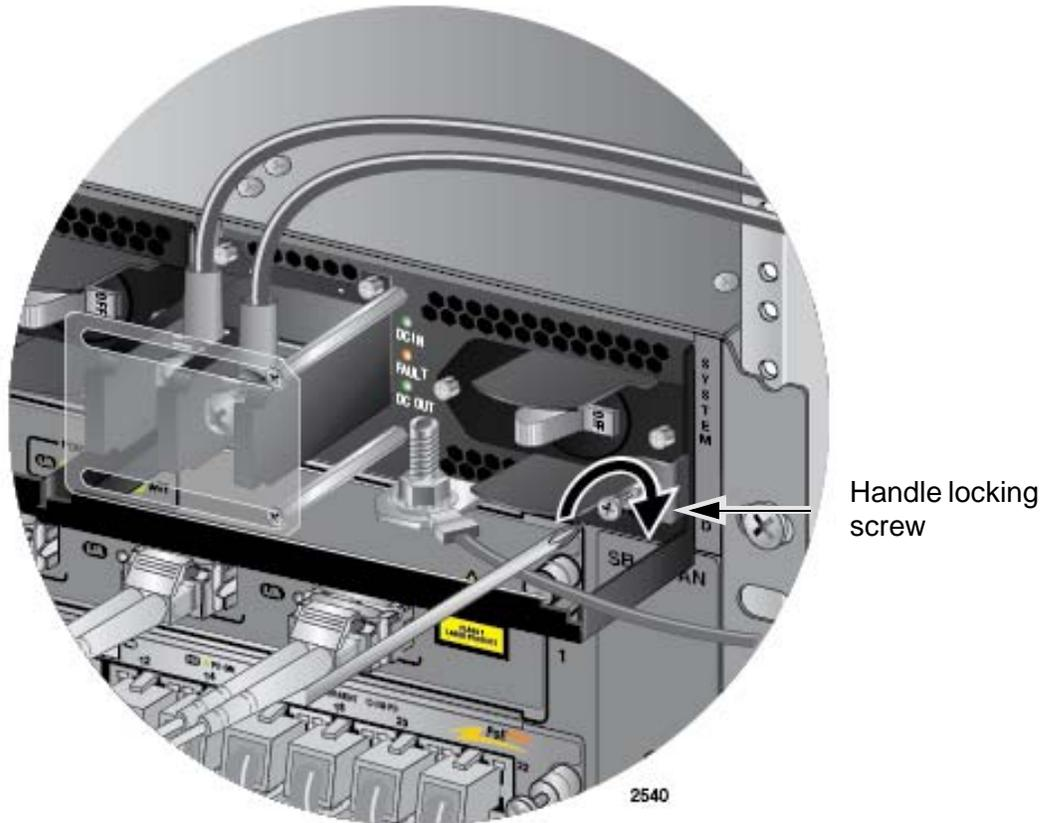

Figure 128. Tightening the Handle Locking Screw
9. With a #2 Phillips-head screwdriver, tighten the handle locking screw to secure the power supply to the chassis. See Figure 128 on page 189.
8. With a #2 Phillips-head screwdriver, tighten the handle locking screw to secure the power supply to the chassis. See Figure 128 on page 189.